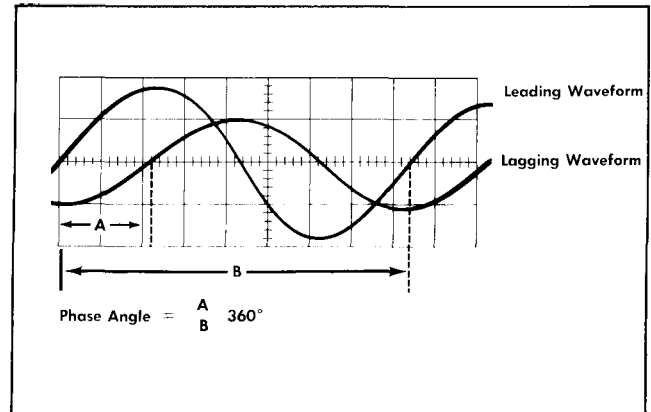

Fig. 3-8. An alternate method for measuring the phase angle between two electrical signals.
Referring to Fig. 3-8, it can readily be seen that the phase angle between the two waveforms is $360^\circ \times A/B$. It is apparent that it is not necessary to calibrate the display in degrees per centimeter as long as it is possible to measure A and B accurately. It is particularly important to measure A accurately when the phase angle is less than 10° . The delayed sweep feature provides the means for making these measurements. The phase angle can be found by: (1) measuring A; (2) measuring B; and (3) multiplying A/B by 360° . Here again the relative amplitude of the two waveforms is unimportant as long as the waveforms are centered about the horizontal centerline of the graticule.
line of the graticule. Record the setting of the DELAY TIME MULTIPLIER control. Subtract the setting of the DELAY TIME MULTIPLIER control obtained in step 3 from that obtained in this step. The number obtained is the dimension B shown in Fig. 3-8.
5. Disconnect the first waveform and connect the second (lagging) waveform to the oscilloscope input. Place the HORIZONTAL DISPLAY switch in the "B" INTENSIFIED BY "A" position. Center the displayed waveform exactly about the horizontal centerline of the graticule. Adjust the DELAY-TIME MULTIPLIER control clockwise from the final setting of step 4 until the start of the brightened portion of the trace is at the point where the curve next crosses the horizontal centerline of the graticule (see Fig. 3-11). Place the HORIZONTAL DISPLAY switch at "A" DEL'D BY "B". Adjust the DELAY-TIME MULTIPLIER control so that the start of the trace is at the horizontal centerline of the graticule. Record the setting of the DELAY-TIME MULTIPLIER control. Subtract the setting of the DELAY-TIME MULTIPLIER control obtained in step 4 from that obtained in this step. The figure obtained is the dimension A shown in Fig. 3-8.